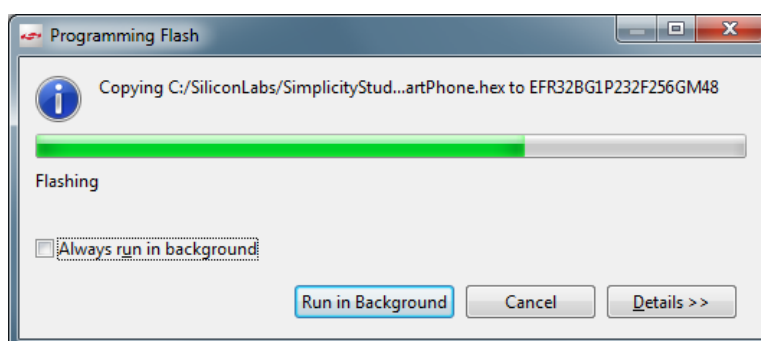

Figure 26. Flash Progress
2. A dialog shows the procedure's progress (Figure 26). Wait until flashing has completed and a debug window is displayed.